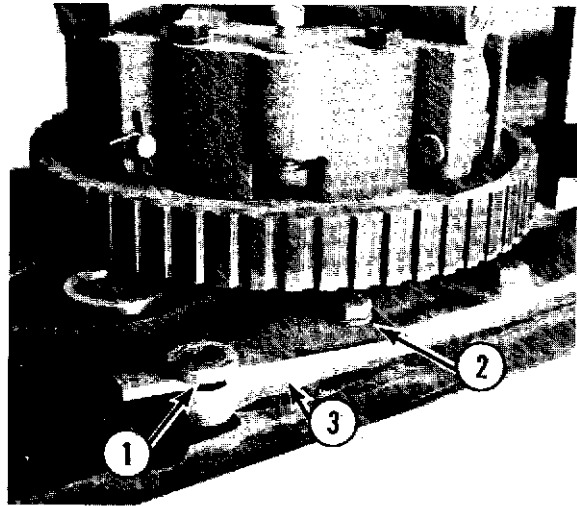

Fig. 7-5
- (1) Loosen the holding screw (1, Fig. 7-5) and the pivot screw (2, Fig. 7-5).
- (2) Move the belt tightener mounting plate (3, Fig. 7-5) to achieve 1/2" belt deflection between the drive pulley and the power bowl lift pulley.
- (3) Tighten both the holding screw and the pivot screw to hold the adjustment.